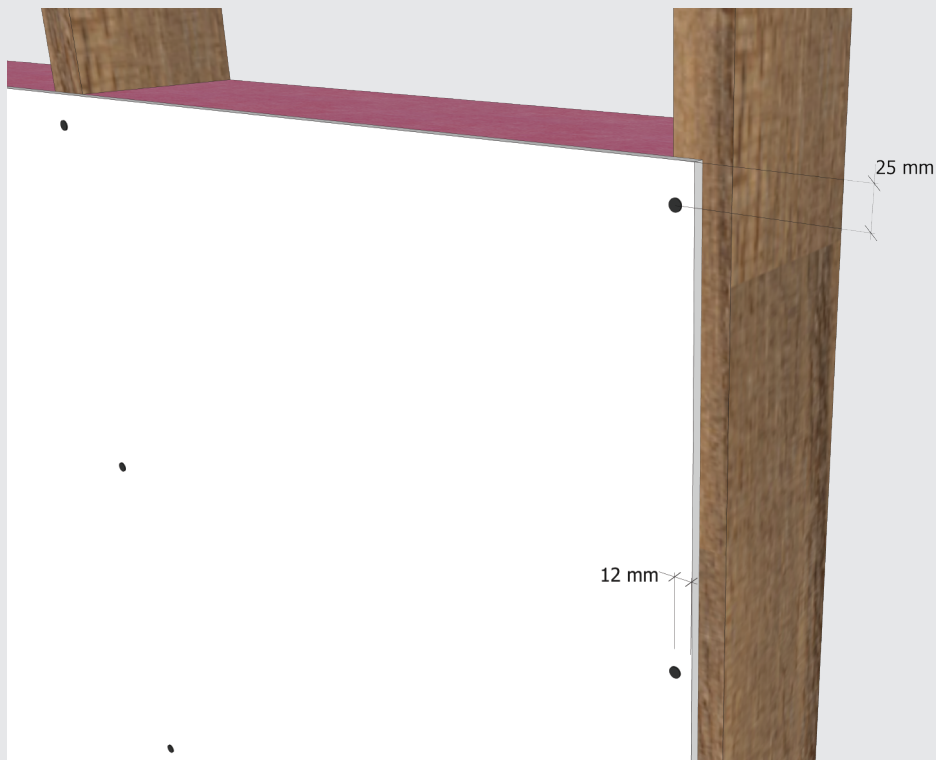

Figure 5.
- Space fixings at least 12mm from the edges of the boards and 25mm from the corners of the boards. (Figure 5)